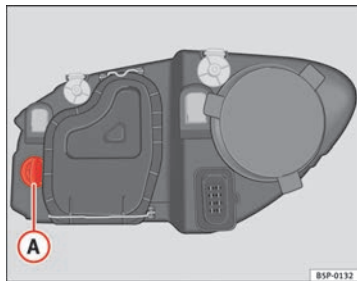

Fig. 164 Turn signal
- Rotate the bulb holder ⇒ fig. 164 **A** to the left and pull.